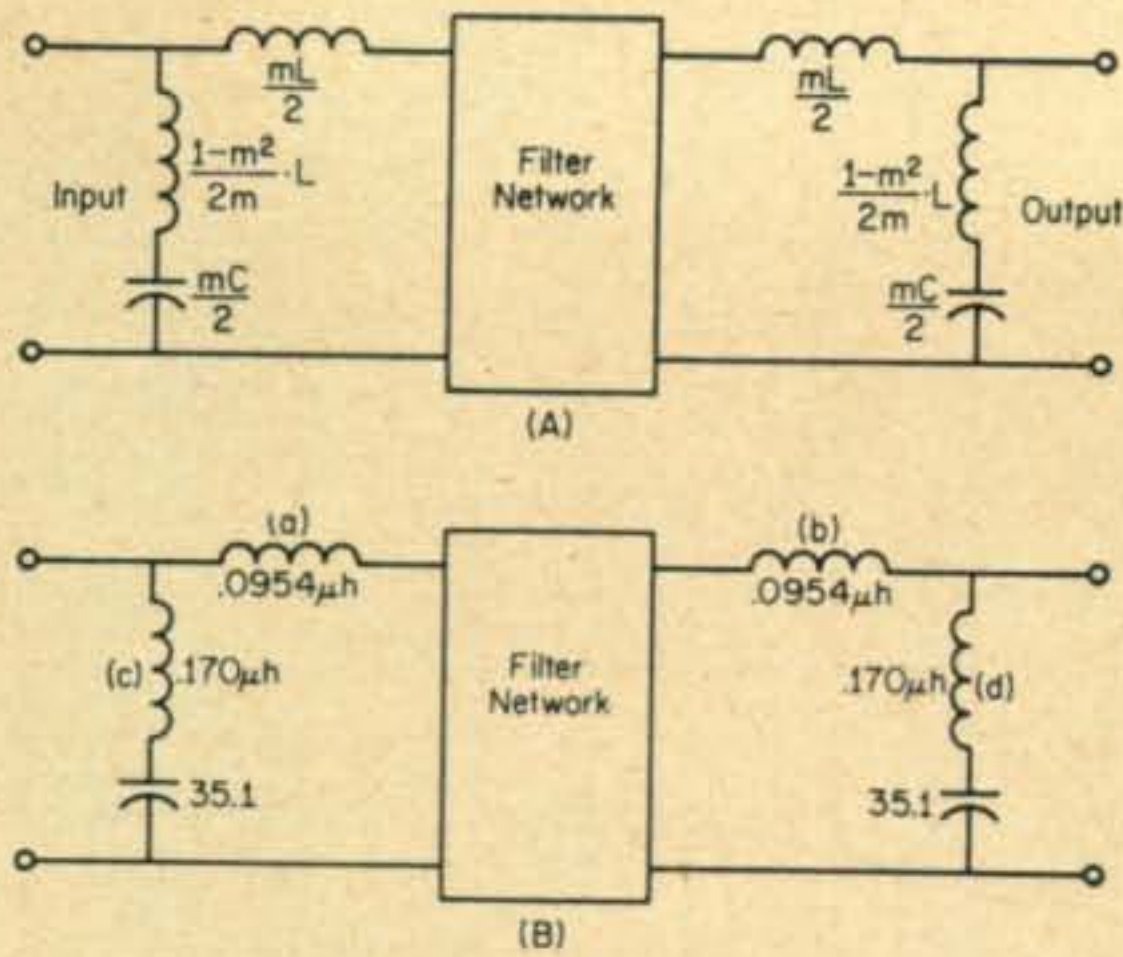

Fig. 5 (A)—Circuit and formulas for determining the component values of the end sections. (B) Computed values for the example chosen in the text.
and output impedances of the network are not constant but vary with frequency. To correct this the use of half sections, shown in fig. 5, are required.
In this case, so far, we have determined L and C from equations (6) and (7). Now m in fig. 5(B), poses no problem as its value is always equal to 0.6 when designing half sections. Substitution of the required numbers enables determination of the required values and gives us the working circuit of fig. 5(B). The calculations are illustrated below.